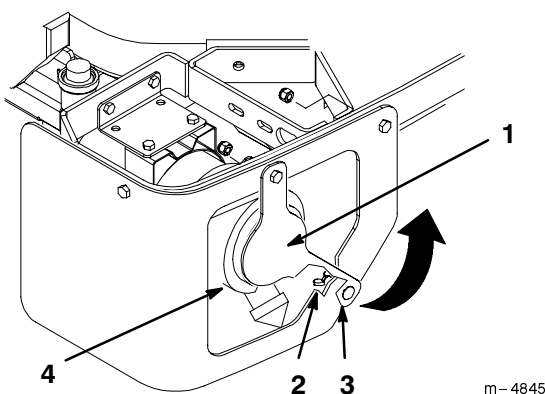

Figure 55
2. Remove the wing nut from the bolt in the air filter guard. Rotate guard to gain access to filter (Fig. 55).